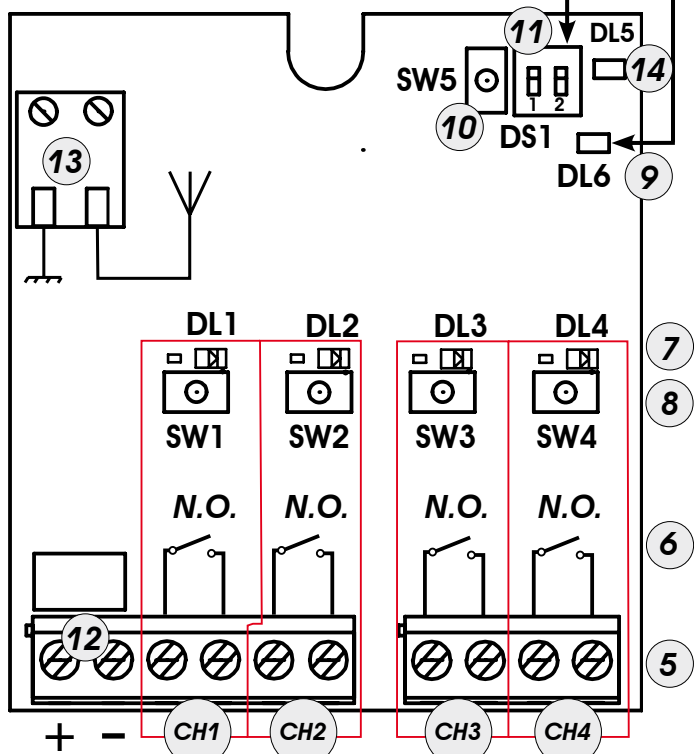

Fig.1
- 2) Press for 1 second, the push-button on the receiver (Fig. 1 ref. ⑧) relating to the channel you wish to associate with the radio control
- 3) The relevant LED on the receiver (Fig. 1 ref. ⑦) begins to flash slowly for 5 secs.
- 5) The relevant LED (Fig. 1 ref. ⑦) lights up on steady beam for 1 second and then goes OFF, indicating that storage was executed.
- 4) Press, for 1 second, the push-button on the receiver (Fig. 1 ref. ⑧) relating to the channel you wish to associate with the radio control.
- 5) The relevant LED on the receiver (Fig. 1 ref. ⑦) begins to flash slowly for 5 secs.
- 7) The LED on the board (Fig. 1 ref. ⑦) lights up on steady beam for 1 second and then goes OFF, indicating that storage was executed.
- 1) Press, for 1 second, the push-button on the receiver (Fig. 1 ref. ⑧) relating to the channel you wish to associate with the radio control.
- 2) The relevant LED on the receiver (Fig. 1 ref. ⑦) begins to flash slowly for 5 secs.
- 4) The LED on the receiver (Fig. 1 ref. ⑦) lights up on steady beam for 1 second, indicating memory storage was executed, and then resumes flashing for another 5 secs., during which another radio control can be memory stored.
- b) Press and simultaneously hold down push-buttons P1 and P2 until the flashing light of the LED (Fig. 1 ref. ⑦) on the receiver board lights up.
- f) The LED (Fig. 1 ref. ⑦) lights up on steady beam for 2 seconds, indicating memory storage was executed, and then resumes flashing for 5 secs., during which point "e" can be repeated, and also the subsequent points, for other remote controls and finally goes OFF.
- 1) To delete **ALL** the radio control codes associated with **channels 1-2 or 3-4**, hold down the relevant push-button (Fig. 1 ref. ⑧) for 10 seconds.
- 2) The LED (Fig.1 ref. ⑦) relating to the pressed push-button flashes for the first 5 secs., and then flashes more quickly for the next 5 secs.
To programme time, first of all **select, with dip switch 2, the time base** with which the board will count (see table fig.1); next press the SW5 key (Fig.1 ref.⑩) until you reach the selected time (LED DL6 briefly lights up whenever the relevant key is pressed). Wait for 5 secs. **without pressing any key**, until LED DL6 lights up on steady beam for 3 seconds. (To exit programming)
- 2) Press key SW5 (Fig.1 ref. ⑩) 10 times.
- 2) Press key SW5 (Fig.1 ref. ⑩) 20 times.